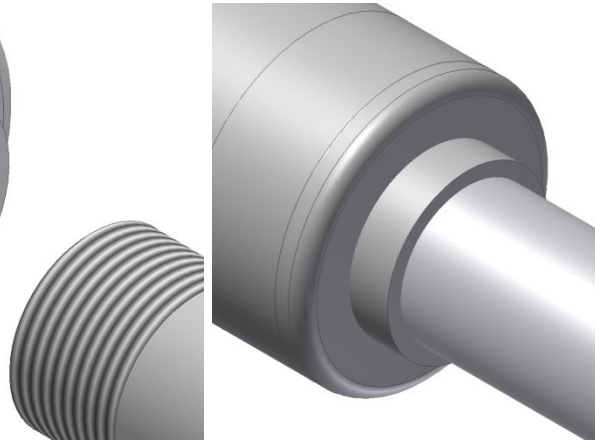

Figure C.2.2: Silencer in secured position.
1. Check silencer to make sure it is securely tightened onto inlet/outlet connection. See figure C.2.2